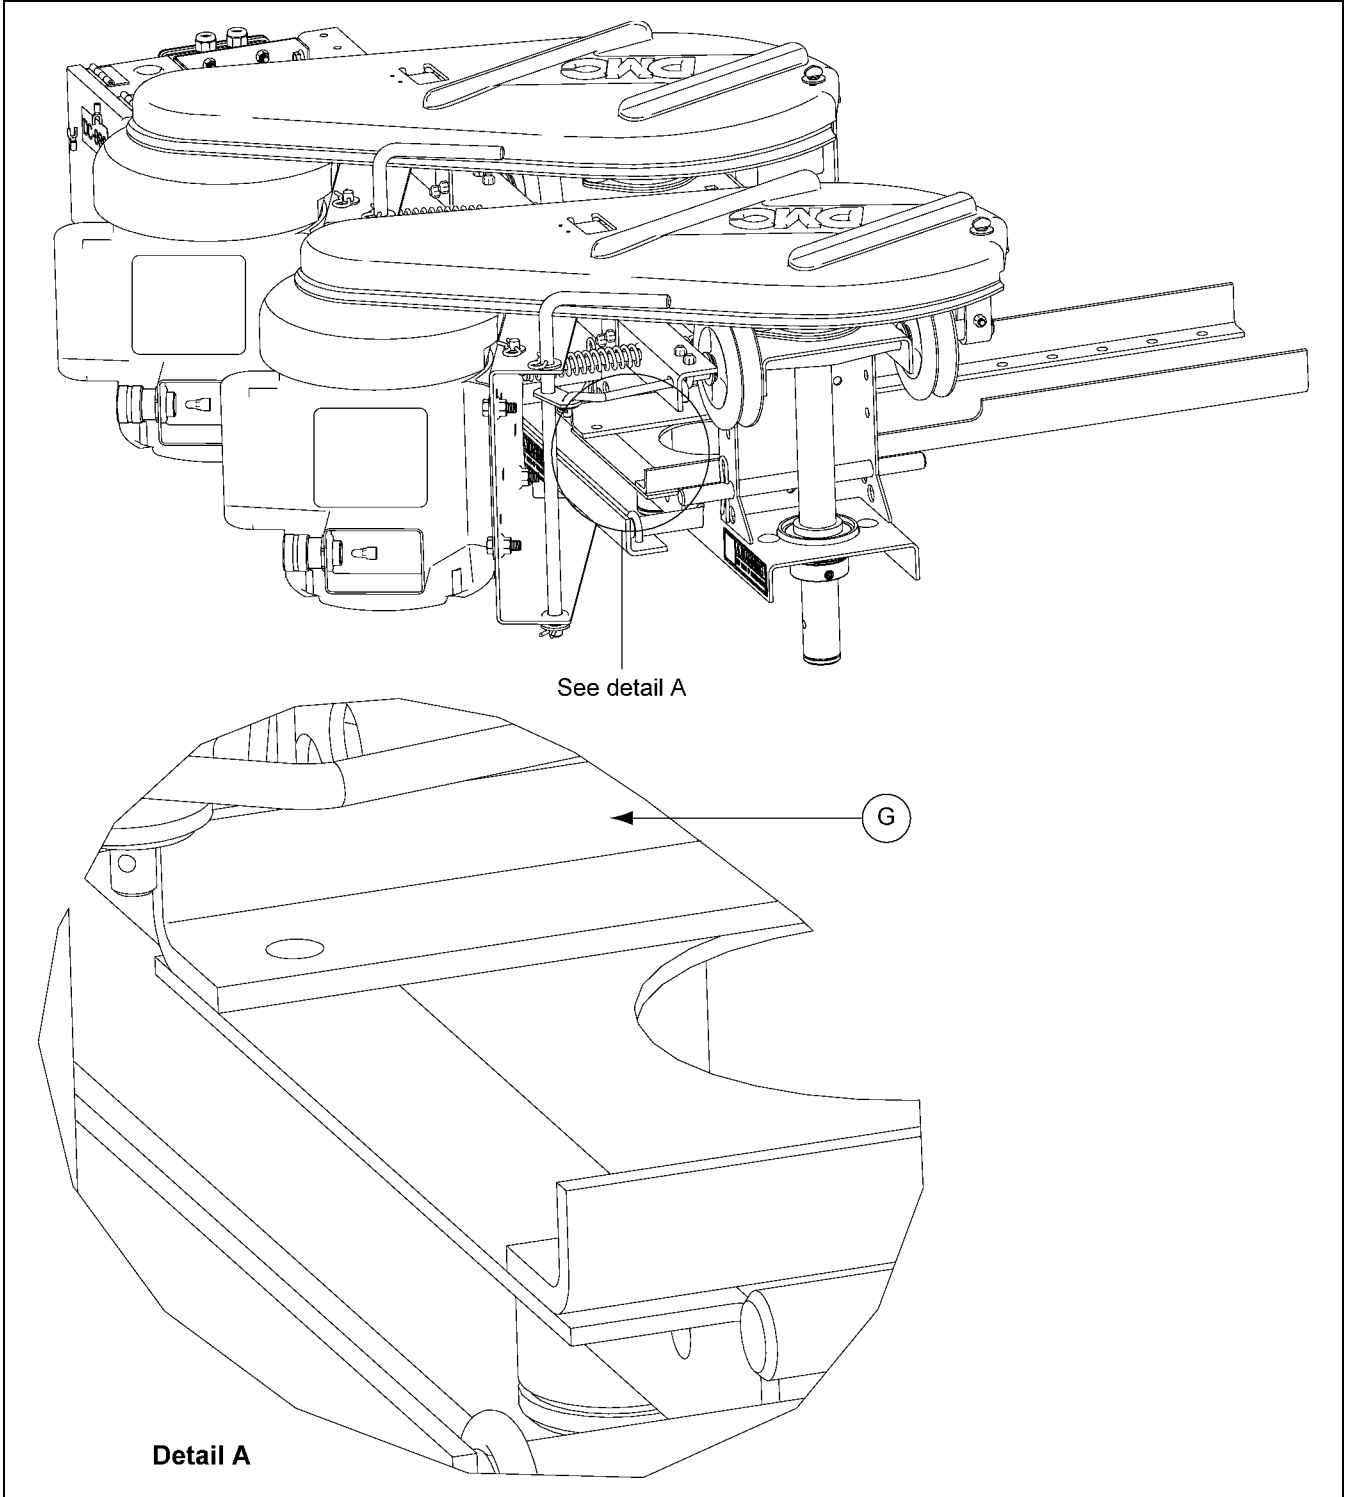

Figure 4
2. Bolt the lower angle brackets to the trolley frame using bolts (G). *(See Figure 4 on Page 4.)*